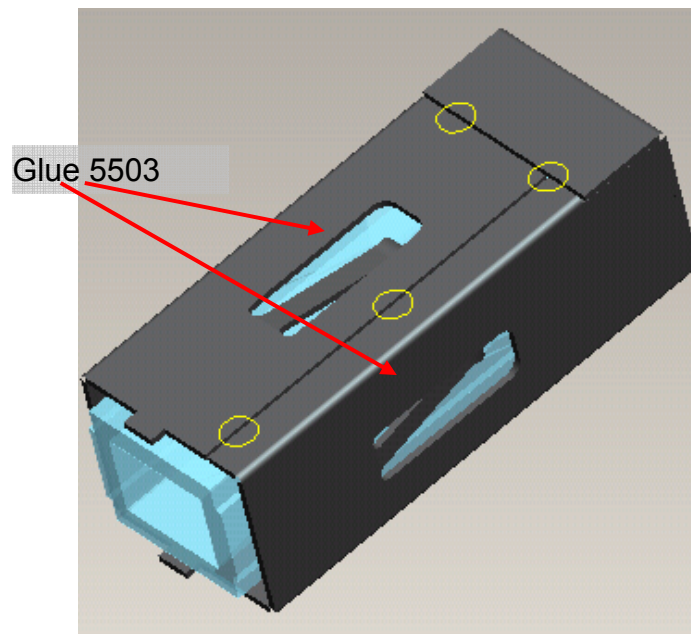

Fig. 5-3
5.3 Glue “LP” and “BKT\_LP” with “UV5503 Glue” at two opening of “BKT\_LP” show in Figure 5-3.
- vi. The UV-glue must fill up the whole opening area (shown in Figure 5-3) to contact well